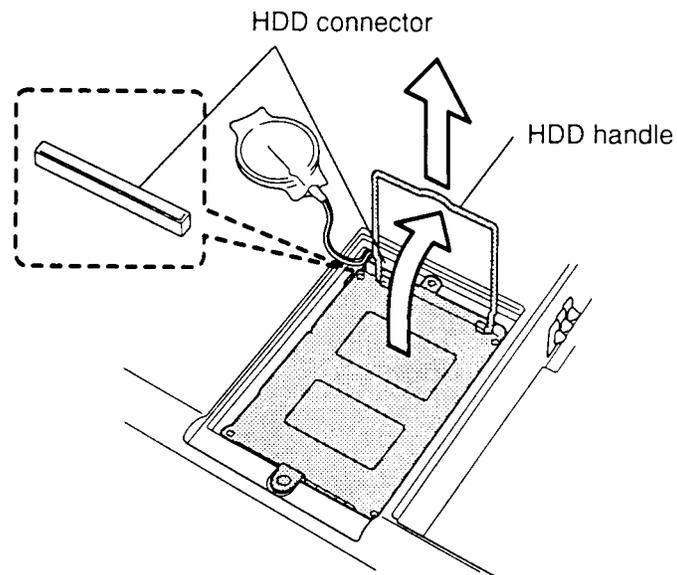

Figure 4-6 Removing the HDD with Bracket
- Lift up and pull on the **HDD handle** to disconnect the **HDD connector** (Figure 4-6).
2. Place the **HDD** on the HDD slot. Make sure the **HDD connector** connects to the system board **PJ408** correctly as shown in Figure 4-6.